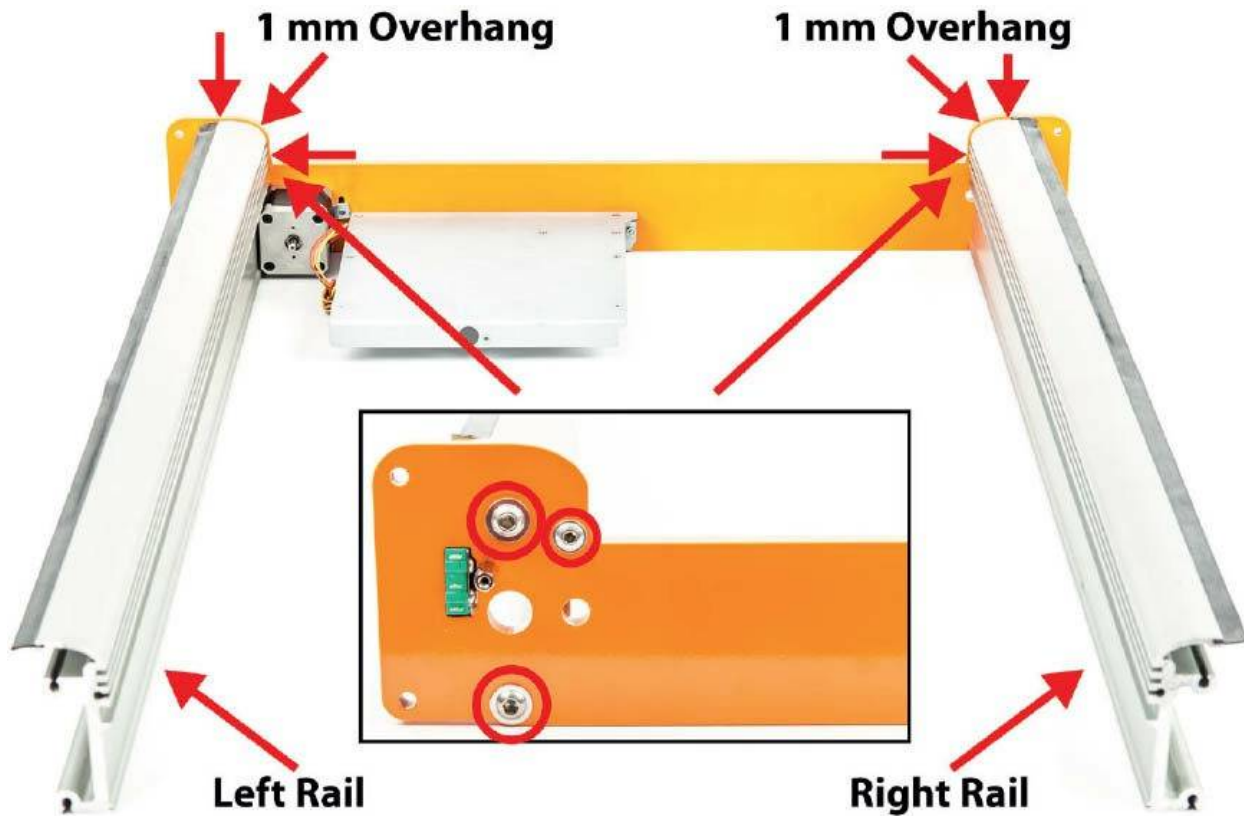

Fig. 2.66 *Mounting the Y rails*
12. Before you finally tighten the bolts, make sure that there is an even overhang of about 1 mm on all sides of the rail (see figure 2.66).